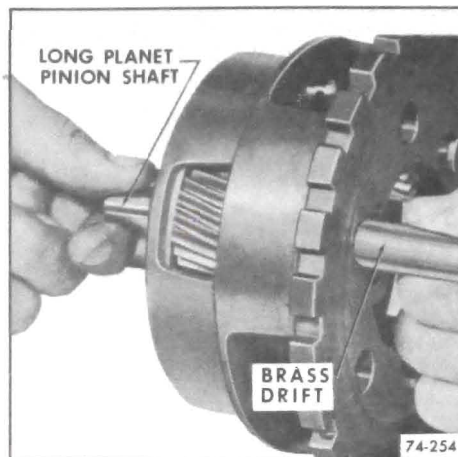

Figure 74-254
9. Insert Brass Drift through long planet pinion. Remove the long planet pinion shaft. See Figure 74-254.